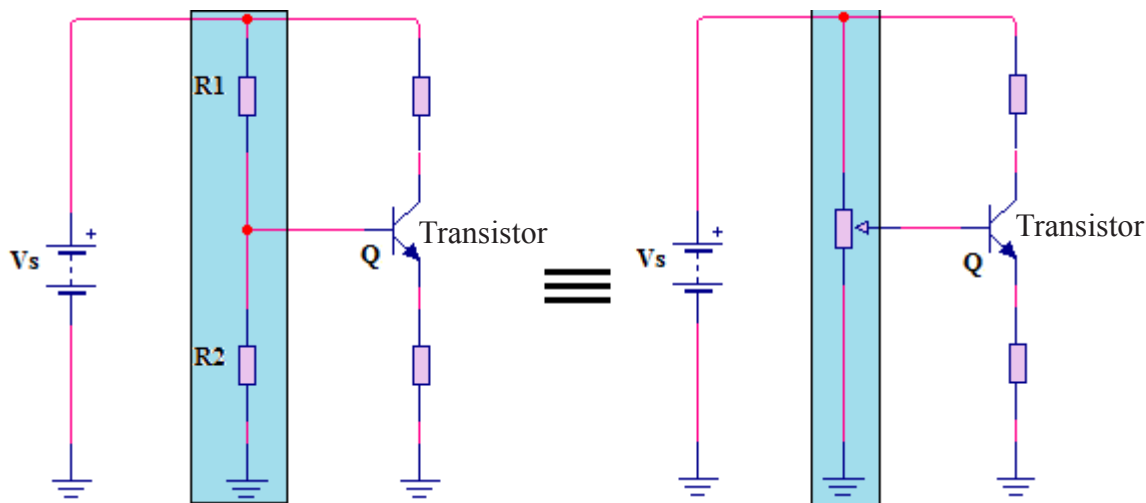

Figure 2-34: The voltage divider used as a bias circuit for a transistor amplifier
- Still another application for voltage dividers in setting the dc operating voltage (bias) in transistor amplifier. The figure 2-34 shows a voltage divider used for this purpose. You will study transistor amplifier and biasing later, so it is important that you understand the basics of voltage divider at this point.